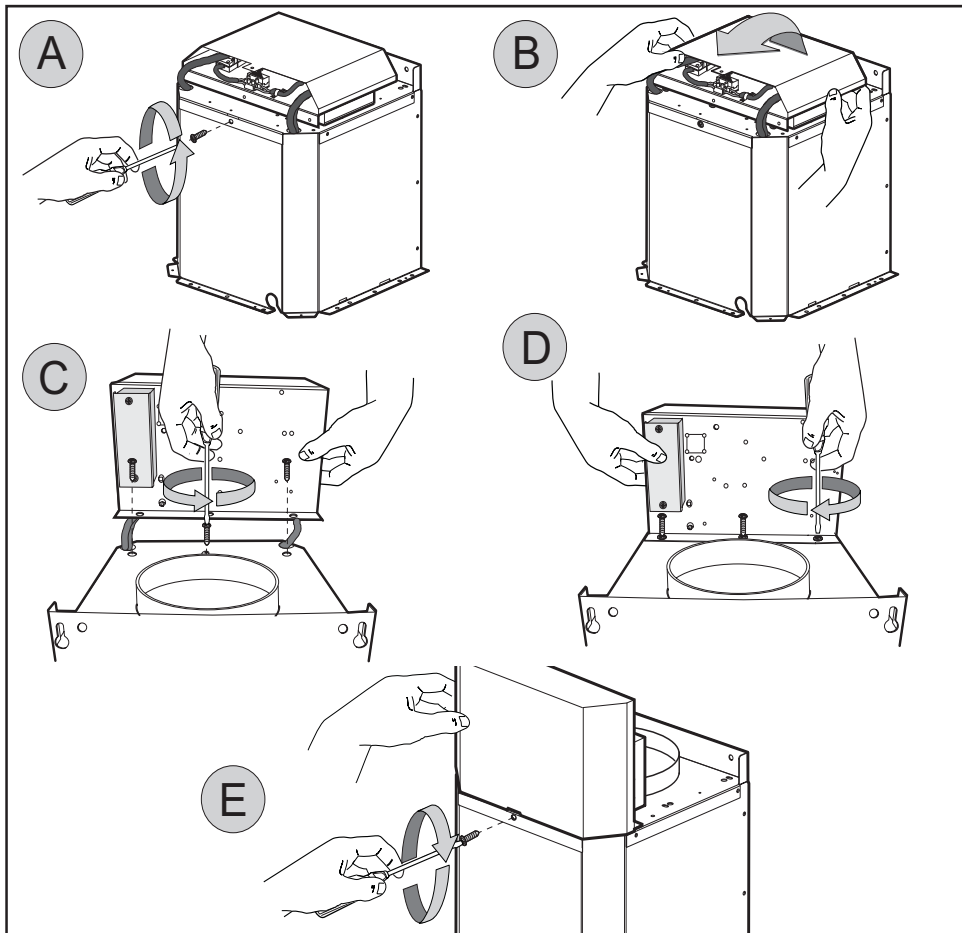

Fig.1
The appliance has been designed for use in the ducting version (air exhaust to the outside – Fig.1).
- **WARNING - TO REDUCE THE RISK OF FIRE, ELECTRIC SHOCK, OR INJURY TO PERSONS, OBSERVE THE FOLLOWING: Before making electrical connections to power supply, the electrical box must be secured in place as indicated in fig.1**
Before installing the appliance fix the electrical box as indicated in fig.1